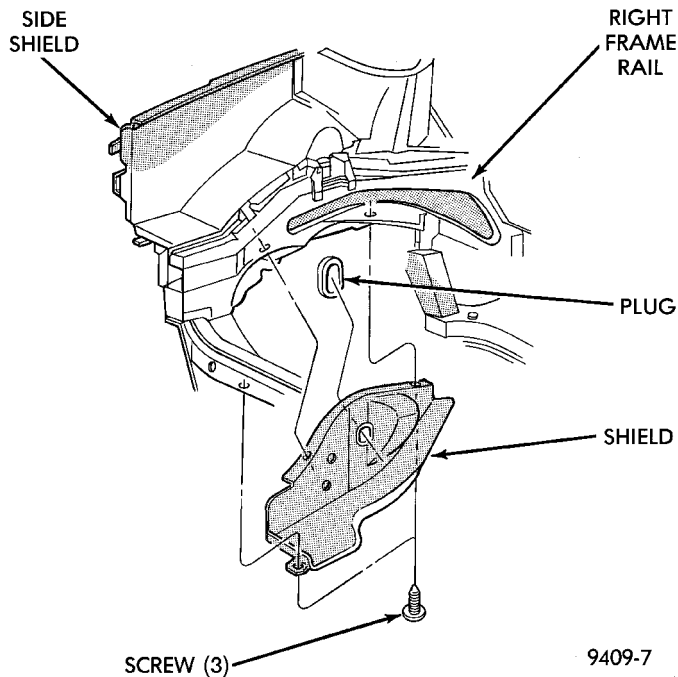

Fig. 38 Right Inner Splash Shield
(1) Remove accessory drive belts. Refer to Group 7, Cooling System for procedure outlined in that section.
(2) Raise vehicle on a hoist and remove right inner splash shield (Fig. 38).